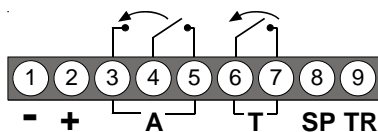

Figure 4: Terminal Connections
- Connect wiring as shown in *Figure 4*.